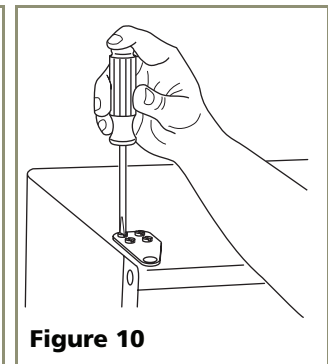

Figure 10
9. Place door on lower hinge pin. Align flat edge of top hinge with outer edge of unit and fasten upper hinge to unit (four screws). Partially tighten screws. See **Figure 10**.